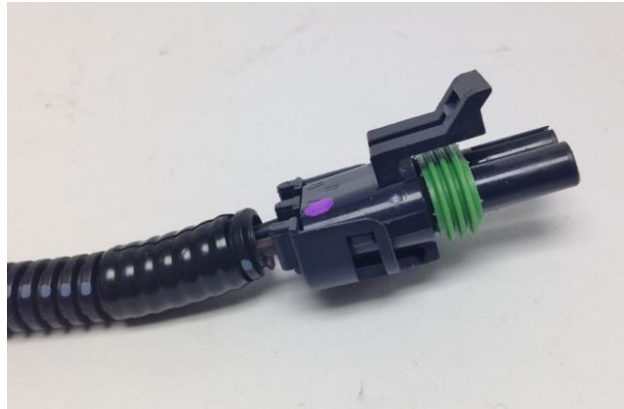

Figure 9- Washer Pump Connection
11. The Detroit Speed Selecta-Speed harness does include a weather pack connector to install an optional electric inline washer pump into your vehicle (Figure 9). Detroit Speed does offer a washer pump kit you can purchase separately as part number 121102.